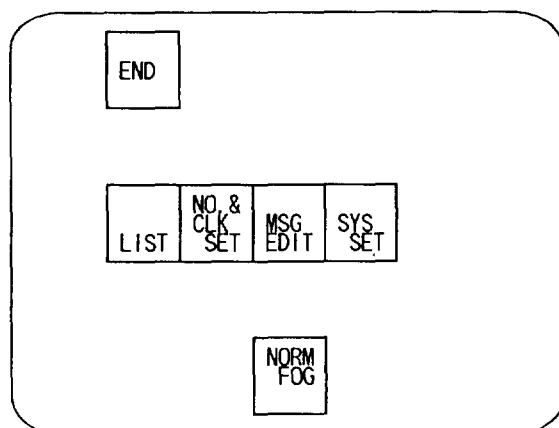
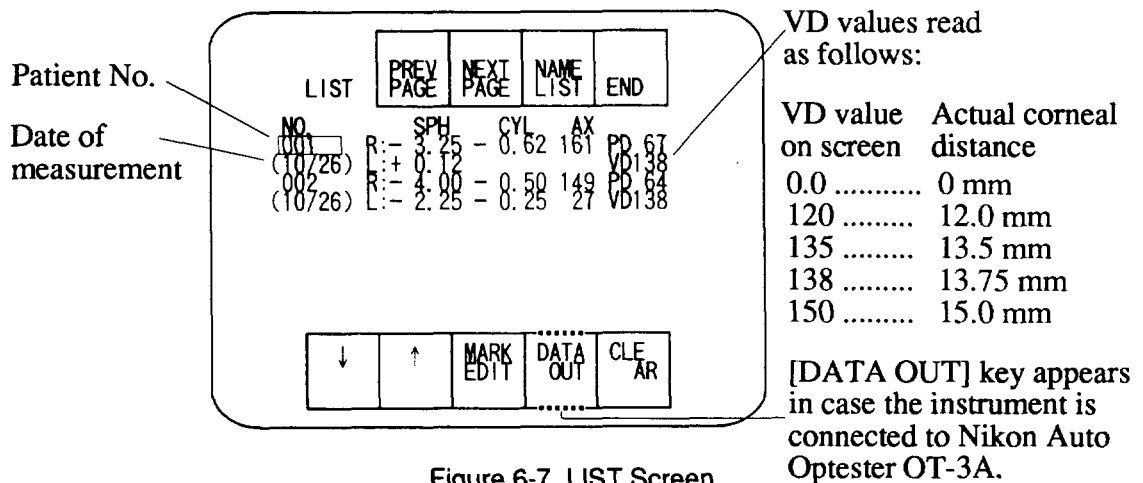
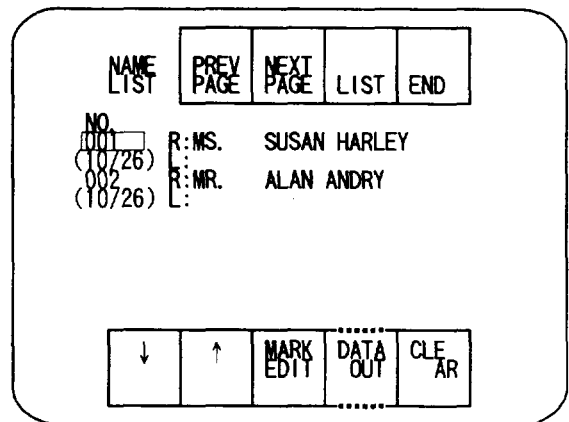
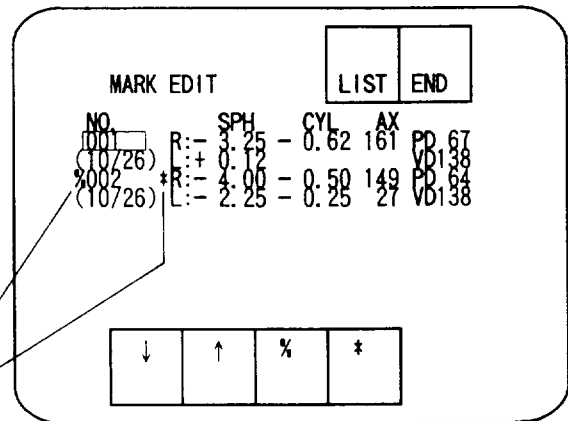

Figure 6-6 Menu Screen
Figure 6-7 LIST Screen
Figure 6-8 NAME LIST Screen
Figure 6-11 MARK EDIT Screen
Press the [MENU] key on the measurement screen (see pages 9 through 14) to display the menu screen (see Figure 6-6).
Press the [LIST] key on the menu screen (see page 33 and Figure 6-6) to display the LIST screen (see Figure 6-7).
- Press the [NAME LIST] key to display the NAME LIST screen. On this screen, the entered patient names and other information are displayed instead of the measured values (see Figure 6-8).
- ① Press the [PRINT] key on the LIST screen (see page 34 and Figure 6-7) or the NAME LIST screen (see page 34 and Figure 6-8) to display the LIST PRINT screen (see Figure 6-9).
- ② Press the [↓] or [↑] key to move the cursor to the data you want to print.
- ① Press the $\left[\begin{array}{c} \text{MARK} \\ \text{EDIT} \end{array} \right]$ key on the LIST screen (see page 34 and Figure 6-7) or the NAME LIST screen (see page 34 and Figure 6-8) to display the MARK EDIT screen (see Figure 6-11).
- ② Press the $[\downarrow]$ or $[\uparrow]$ key to move the cursor to the line you want to edit.
- ① Press the **[DATA OUT]** key on the LIST screen (see page 34 and Figure 6-7) or the NAME LIST screen (see page 34 and Figure 6-8) to display the LIST DATA OUTPUT screen (see Figure 6-12).
- ② Press the **[↓]** or **[↑]** key to move the cursor to the data you want to send.
- ① Press the [CLEAR] key on the LIST screen (see page 34 and Figure 6-7) or the NAME LIST screen (see page 34 and Figure 6-8) to display the LIST CLEAR screen (see Figure 6-13).
- ② Press the [↓] or [↑] key to move the cursor to the patient No. you want to clear.
- ① Press the $\left[\begin{array}{c} \text{NO. \&} \\ \text{CLK} \end{array} \right]$ key on the menu screen (see page 33 and Figure 6-6).